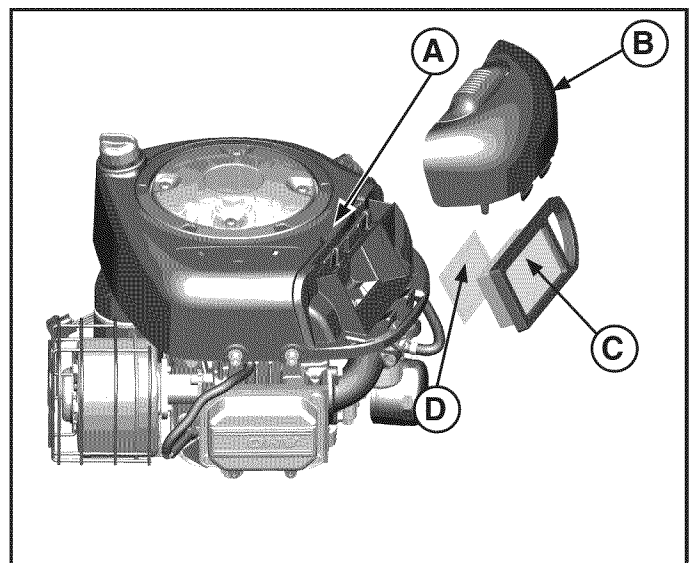

FIGURE 16
1. Lift up on the bottom of the latch (A, Figure 16) and flip the latch away from the cover (B).
2. Remove the cover. Remove the filter (C) and the pre-cleaner (D).